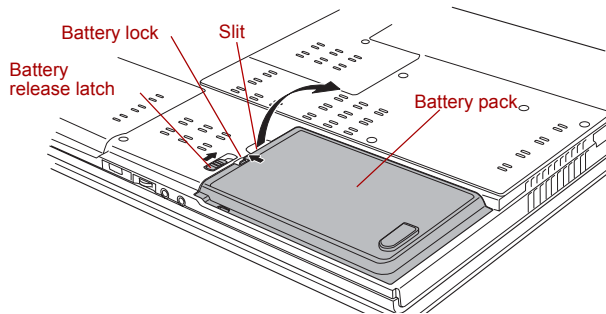

Figure 6-1 Releasing the battery pack
5. Slide the battery lock to the unlock position (🔓). (Slide it completely in the direction of the arrow shown in the Figure 6-1).
6. Slide completely the battery release in the direction of the arrow shown in the Figure 6-1 to release the battery pack.